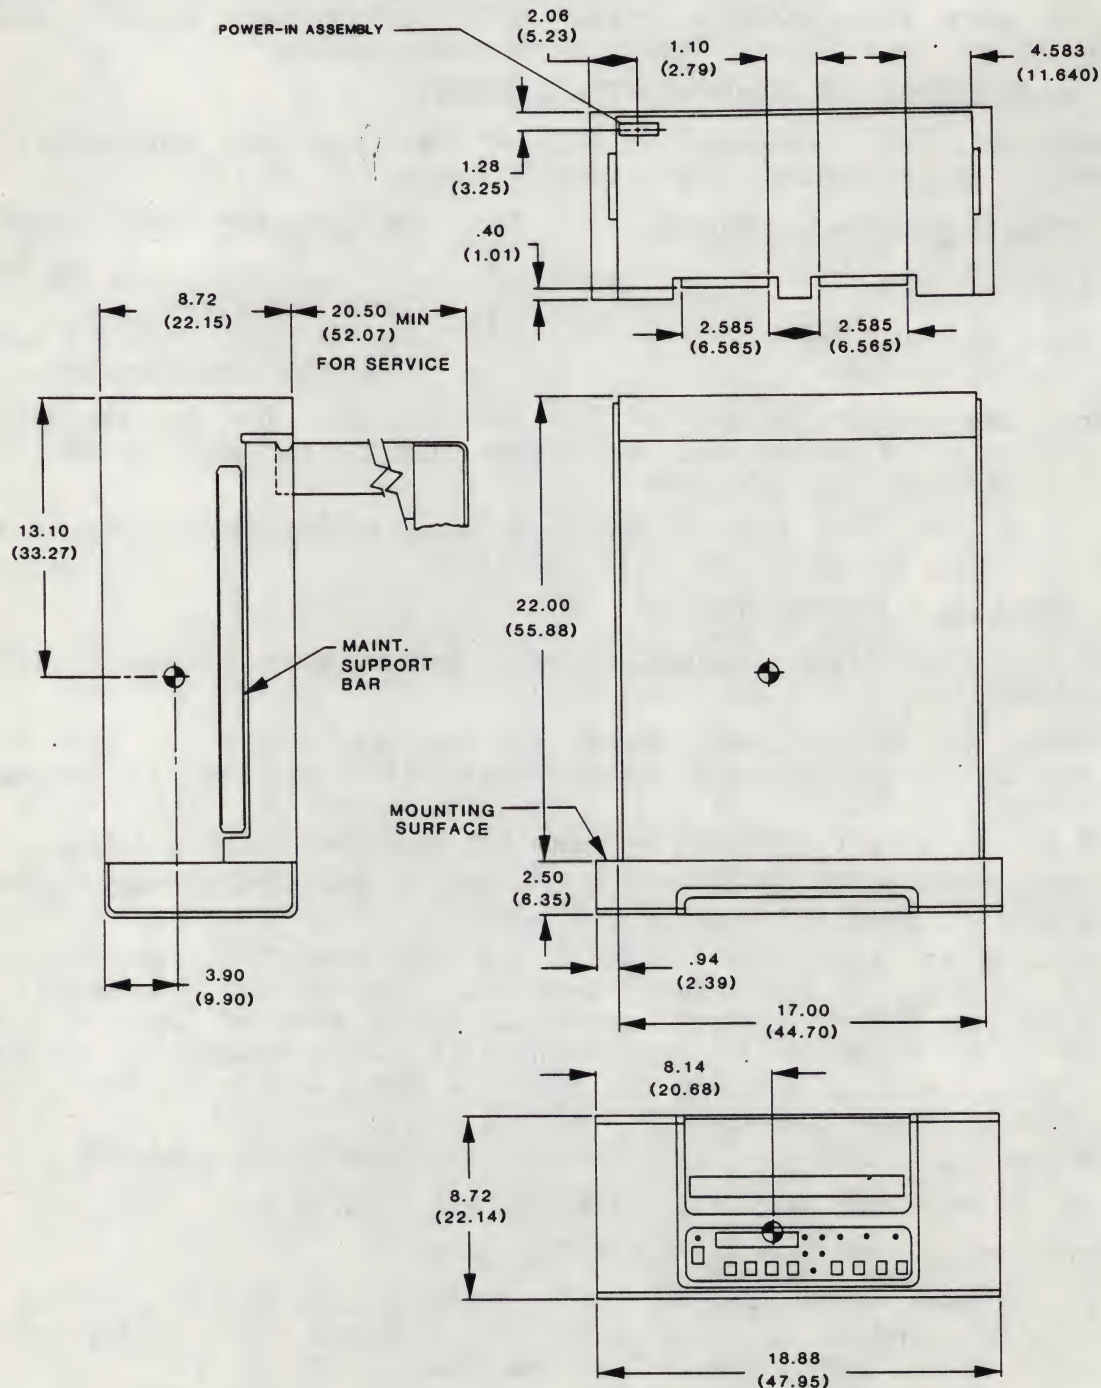
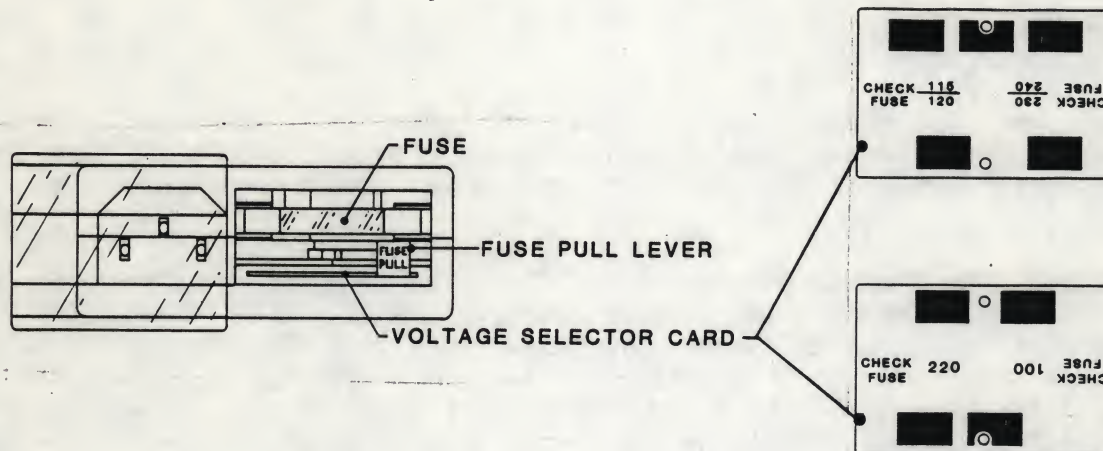

Figure 2-6. Outline And Installation Drawing, Model 9610
Figure 2-9. Power-In Assembly
Place the Drive on a flat table top with dimensions to accommodate the Drive (Figure 2-6), of sufficient strength to support the weight of the Drive; and allow sufficient clearance for maintenance access. Do Steps E and F in paragraph 2.4.2.2.
The Drive is normally factory-set for 120-volt operation. Other voltage choices can be 100, 220, or 240. Locate the Power-In Assembly (Figure 2-9) at the rear of the unit (Figure 2-6). The Voltage Selector Card behind the plastic slide cover is installed with "120" legible. This indicates that the Drive is set for 120-volt operation. The following subparagraph describes changing this setting as necessary.
- A. Remove the AC power cord (if installed) from the Power-In Assembly (Figure 2-9).